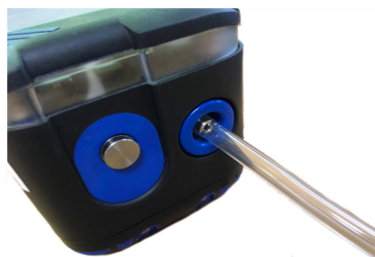

Figure 87: Connect Calibration Gas
- Connect the calibration gas to the monitor inlet (as shown in Figure 87: Connect Calibration Gas) and wait for the gas reading to settle.